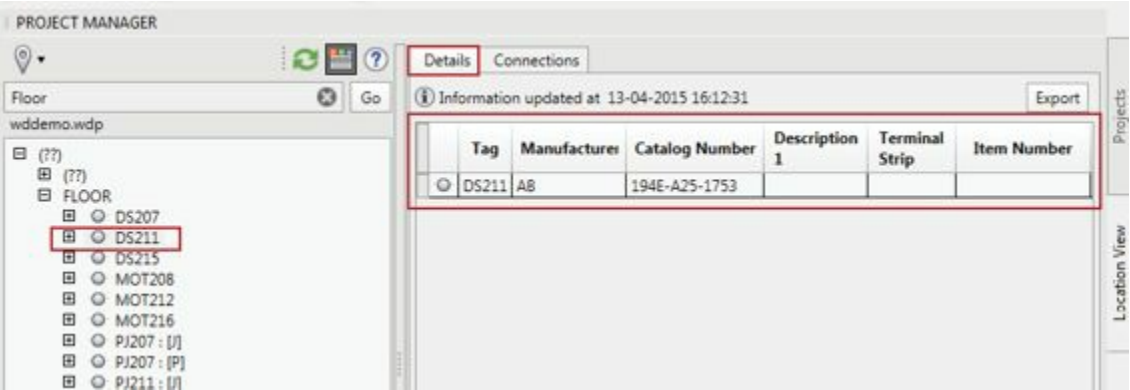

Figure-52. Details of a component
- Select a component from the left pane of the **Project Manager**. The detail of the component will be displayed in the **Details** tab of the **Project Manager**; refer to Figure-52.